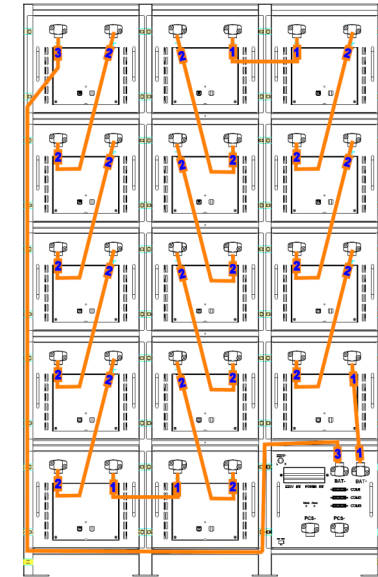

Figure 6-4 Battery rack DC cable wiring diagram (picture is for reference only)
2) According to the wiring position of Figure 6-4, connect the No. 2 series DC cable to each cluster first, then connect the No. 1 serial DC cable, then connect the No. 4 serial DC cable, and finally connect the No. 3 cable.